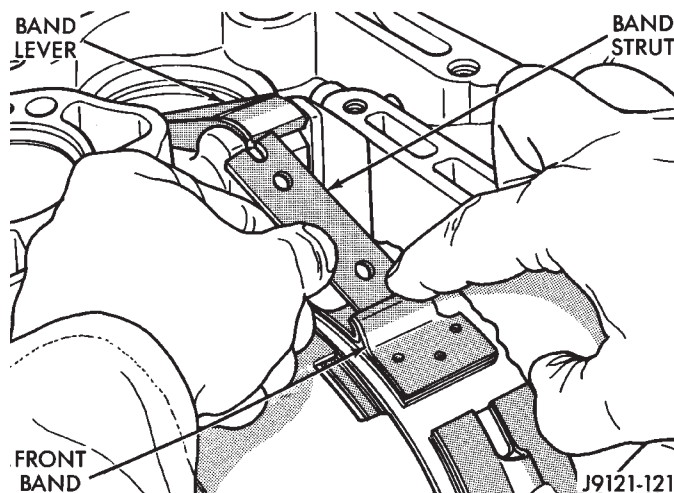

Fig. 92 Removing/Installing Front Band Strut
(17) Loosen front band adjusting screw until band is completely loose.
(18) Squeeze front band together and remove band strut (Fig. 92).